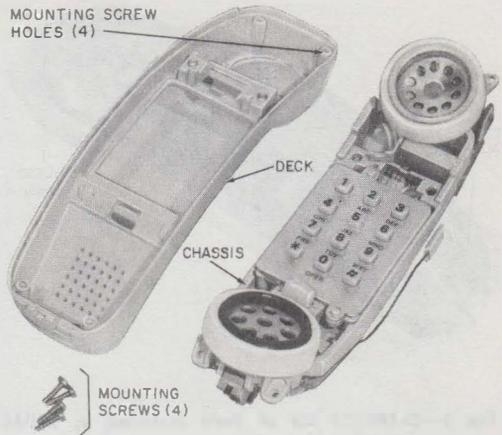

Fig. 7—2220C Hand Telephone Set With Chassis Assembly Removed from Deck
- (2) Carefully back out the two exposed screws with a 3/16-inch blade screwdriver.
- (3) Remove handset cover (shell).
Note: If the D-180719 Kit of Parts is required, the chassis can be removed from the desk on the 220C, 226A, 2220C, and 2226A handsets by removing four (4) mounting screws (Fig. 7)
- (1) Remove the shell and deck from the molded plastic chassis assembly (paragraph 3.01, 3.02 and Fig. 7).
- (2) Twist and lift off the receiver retainer, receiver unit, and receiver grommet from the receiver cup on the chassis assembly.
- (3) Remove the receiver retainer and grommet from the receiver unit and **discard only the retainer and grommet.**
- (1) Remove shell and chassis from handset paragraphs 3.01, 3.02 and Fig. 7.
- (2) Twist and lift off the transmitter and/or receiver unit, retainer, and grommet from the cup on the chassis.
- (3) Separate the defective unit from the grommet and retainer.
- (4) Install replacement unit in reverse order used in removal and reassemble of handset.